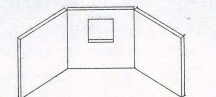

Figure 3
10. Pick Begin. The image should look similar to figure 3.